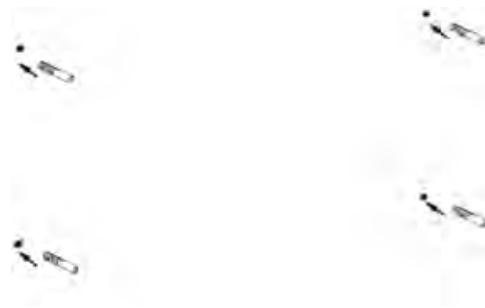

Figure 3
Step 3: Take away the mounting bracket and then drill four 8mm diameter holes on the wall. Insert plastic wall plug into the drilled holes (Figure 3). If installing the appliance on a solid wood wall there is no need to drill the holes in the wood and no need for the plastic wall plug.